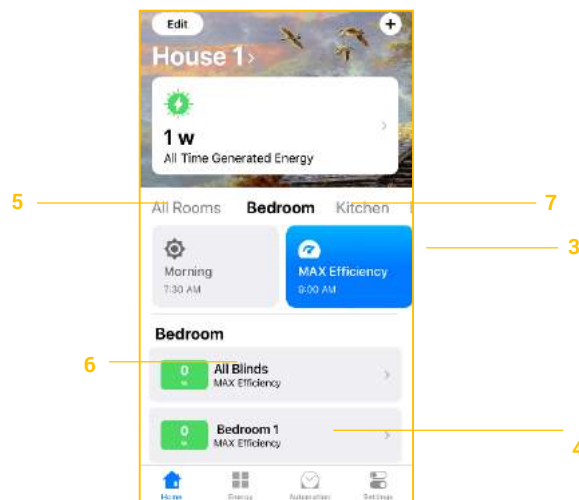

Figure 76
✔ The chosen scenario (Fig. 76) will be highlighted in blue (3) and shown in the BLINDS description, screen (4).